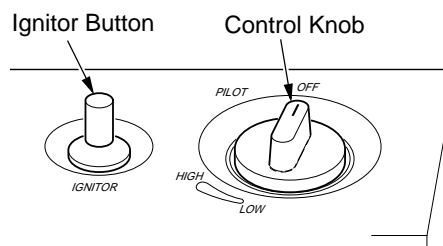

Figure 17 - Control Knob In The OFF Position
4. Wait five (5) minutes to clear out any gas. Then smell for gas, including near the floor. If you smell gas, **STOP!** Follow "B" in the safety information, above. If you don't smell gas, go to the next step.
5. Press in control knob and turn counterclockwise  to the PILOT position. Keep control knob pressed in for five (5) seconds (see Figure 17).